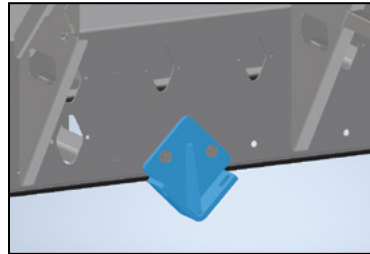

Figure 4 Bed Bracket (Closed Frames) Installed
2. Attach the truck bed mounts to the truck bed with 5/8" grade 5, coarse thread bolts that are not lubricated (dry/plain), which should be torqued to 150 ft-lbs. (Figure 4).